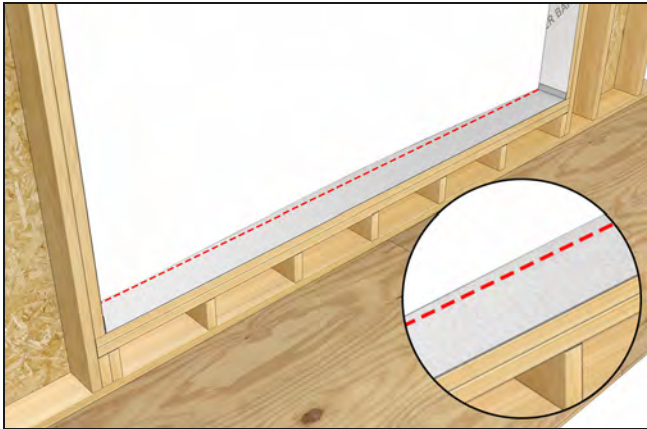

Figure 36
5. Establish an exterior plane along the sill. Use a laser level or snap line. This will be helpful for larger multiple wide assemblies. See Figure 36.